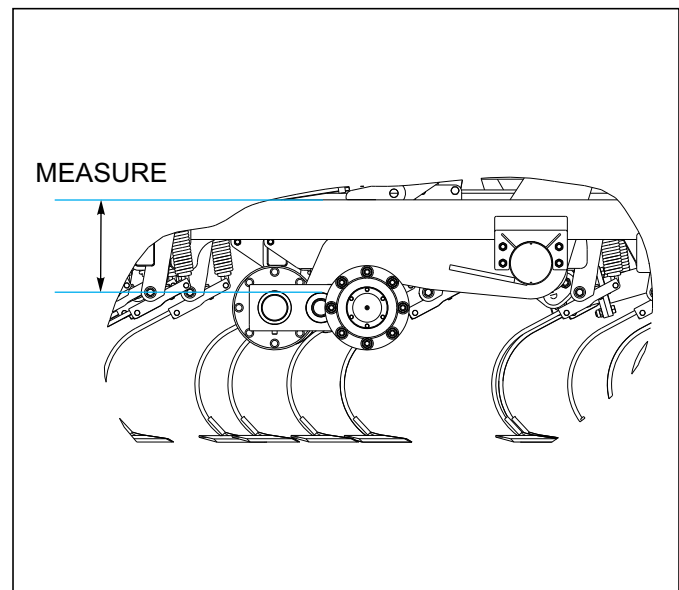

Figure 4-11: Measuring Center Frame
2. To level the unit, verify that all tires are properly inflated. With the implement unfolded, raise the unit to fully extend the lift cylinders. Continue to hold the tractor lever 30-60 seconds to insure that the cylinders are fully extended and the rephasing lift system has been purged of air. Lower the implement until the sweeps are approximately 1" off the ground. On the center frame, lay a straight-edge across the top of the frame, and measure the distance from the top of the welded busing to the top side of the frame of the walking tandems (See Figure 4-11.)